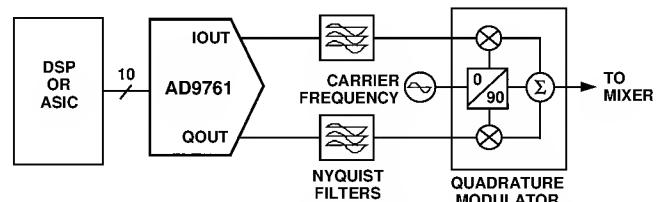

Figure 31. Typical Analog QAM Modulator Architecture
QAM is one of the most widely used digital modulation schemes in digital communication systems. This modulation technique can be found in both FDM A as well as spread spectrum (i.e., CDMA) based systems. A QAM signal is a carrier frequency which is both modulated in amplitude (i.e., AM modulation) and in phase (i.e., PM modulation). At the transmitter, it can be generated by independently modulating two carriers of identical frequency but with a 90° phase difference. This results in an inphase (I) carrier component and a quadrature (Q) carrier component at a 90° phase shift with respect to the I component. The I and Q components are then summed to provide a QAM signal at the specified carrier or IF frequency. Figure 31 shows a typical analog implementation of a QAM modulator using a dual 10-bit DAC with 2x interpolation, the AD9761. A QAM signal can also be synthesized in the digital domain thus requiring a single DAC to reconstruct the QAM signal. The AD9853 is an example of a complete (i.e., DAC included) digital QAM modulator.